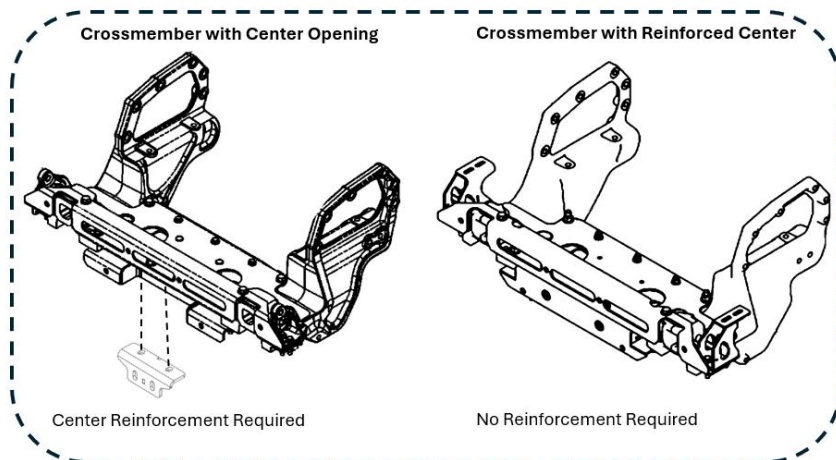
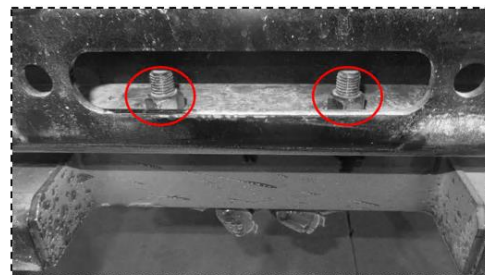
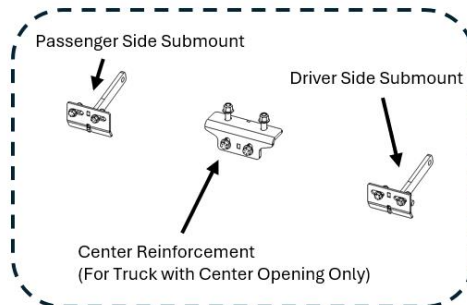

Figure 2a: Crossmember Identification
Figure 2b: Center Bolt Removal
Figure 2c: Submount Diagram
2. Identify which crossmember you have; see Figure 2a. If you have the crossmember with reinforced center, skip to Step 4. If you have the crossmember with center opening, remove and retain the bolts seen in Figure 2b.
3. Install the Center Reinforcement using the provided 5/8" hardware, as shown in Figure 2a. Ensure the Center Reinforcement is flush with the crossmember front face. For reference, the Center Reinforcement is shown in Figure 2c.
4. Install the Driver Side Submount using the OEM bumper side fastener removed in Section I, Step 1; see Figure 2d. Ensure the Driver Side Submount 5/8" Hardware and the OEM bumper side fastener is only loosely tightened. Repeat this step for the Passenger Side Submount. For reference, the Submounts are shown in Figure 2c.